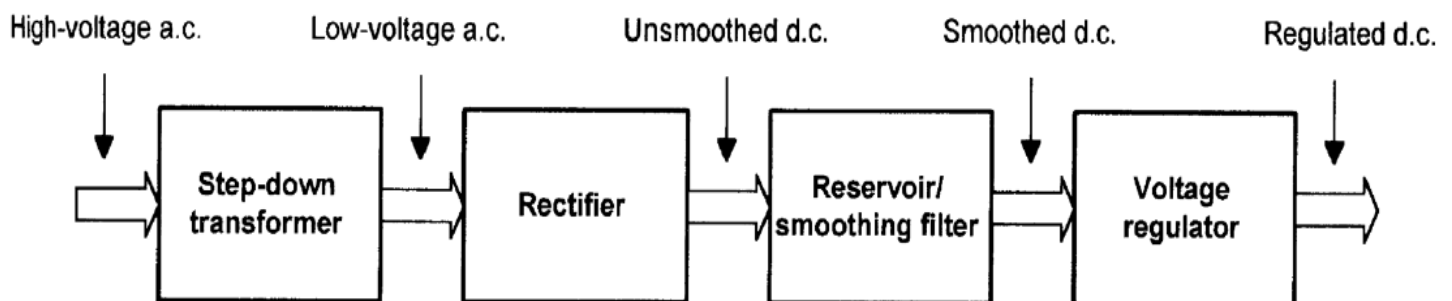

Fig. 1.1: Block diagram of d.c. power supply
- The block diagram of a d.c. power supply is shown in Fig. 1.1.